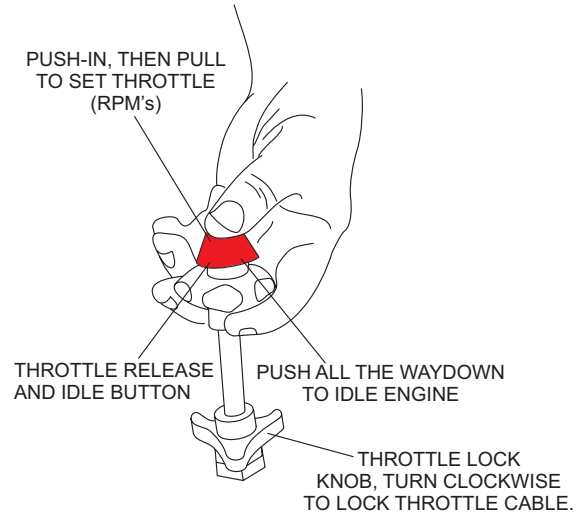

Figure 19. Throttle Control
6. **PUSH** the "RED" button (Figure 19) on the throttle control and pull the round black knob about halfway out. Make sure that the throttle lock knob has been dis-engaged.